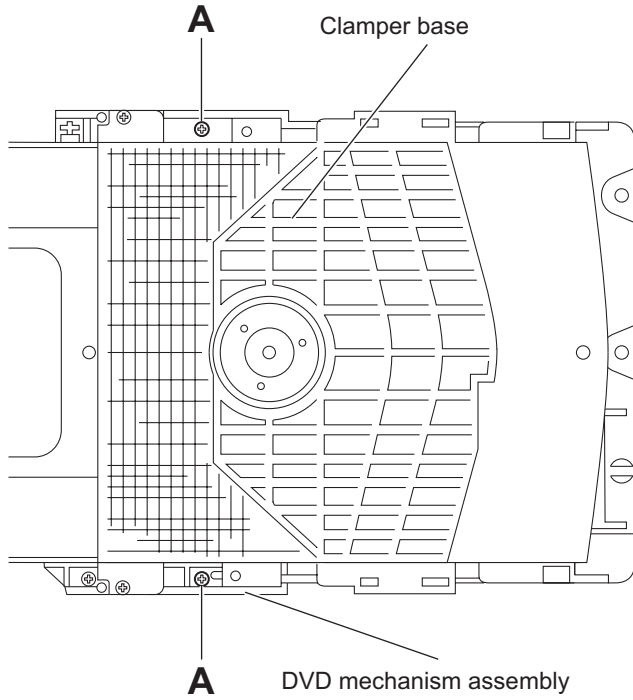

Fig.1
#### 3.2.1 Removing the traverse mechanism (See Fig.1 to 6)
(1) Remove the two screws **A** attaching the tramecha holder from top side of DVD mechanism assembly. (See Fig.1)